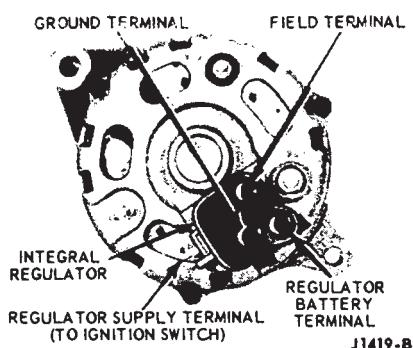

FIG. 4—Alternator With Integral Regulator
The integral regulator (Fig. 4), is a hybrid unit consisting of solid state devices which are technically referred to as integrated circuits (IC) and discrete components. An integrated circuit is composed of transistors, diodes, and resistors all fabricated within a single piece of silicon crystal
3. Remove the terminal covers from the regulator (Fig. 4), and remove the nuts from the alternator studs.
The Autolite integral regulator (Fig. 4), is sealed in plastic and can